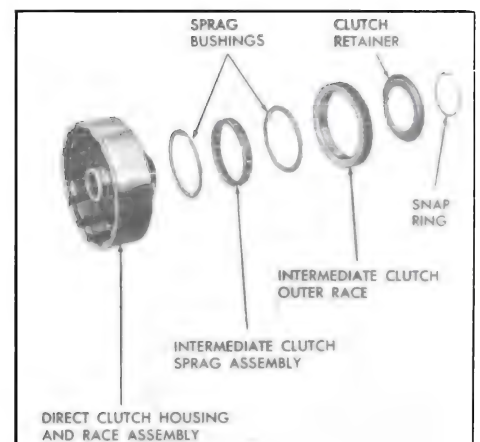

Figure 5-633
1. Inspect sprag assembly for popped or loose sprags. See Figure 5-633.